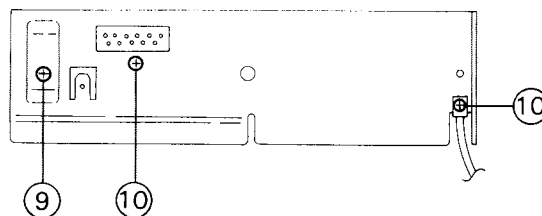

Fig. 4-9
2. After turning over the body upside down, remove the two screws (9 and 10) retaining the chassis from the back surface and dismount the chassis (See Fig. 4-9).